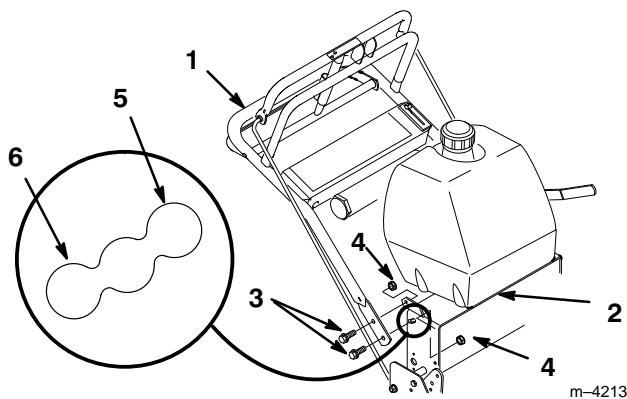

Figure 2
1. Position handle outside frame and align mounting holes. Select desired lower mounting holes for high, medium or low position according to operators height (Fig. 2).
2. Secure each side with (2) 3/8-16 x 1" (26mm) bolts and (2) 3/8-16 locknuts (Fig. 2).